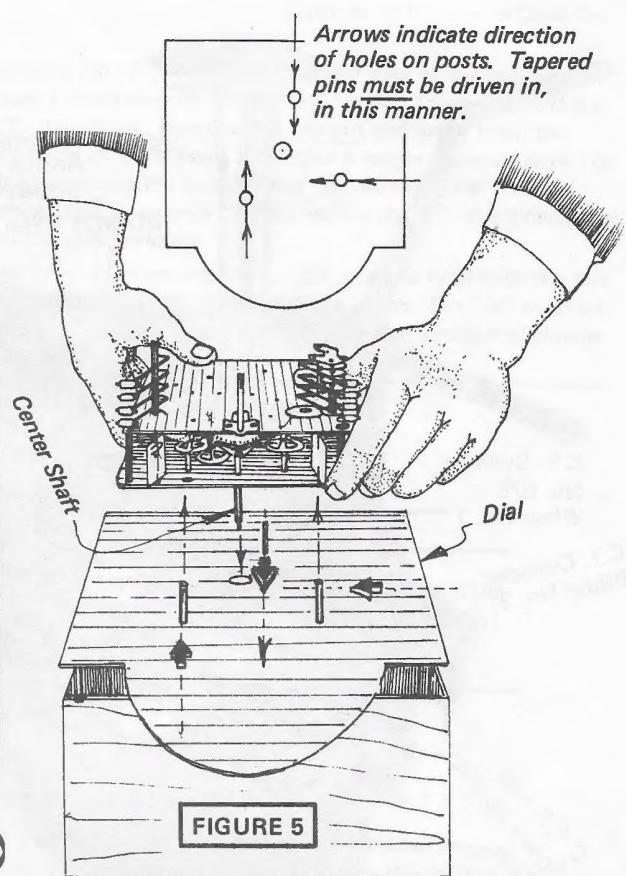

FIGURE 5
2. Remove the hands and the dial. (Figure 5 & 7).
Turn the hour tube to the position shown on the illustration. Then take the moon dial cam and place it  $3/8"$  on the hour tube with the tip of the cam lined up with pin "A" on the inside of the hour rack No. 8. The cam should just clear the back side of the dial. Tighten the screw on the cam and place your dial on. See Fig. 5 for placing dial on.